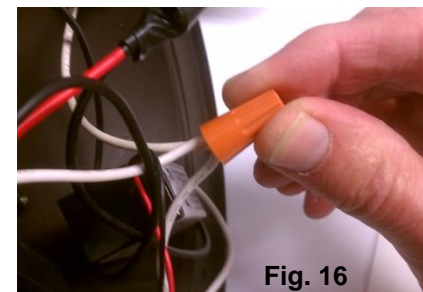

Fig. 16
6. Remove the WIRE NUTS and separate the LED DRIVER WIRES from the FIXTURE WIRES. (Fig.16)